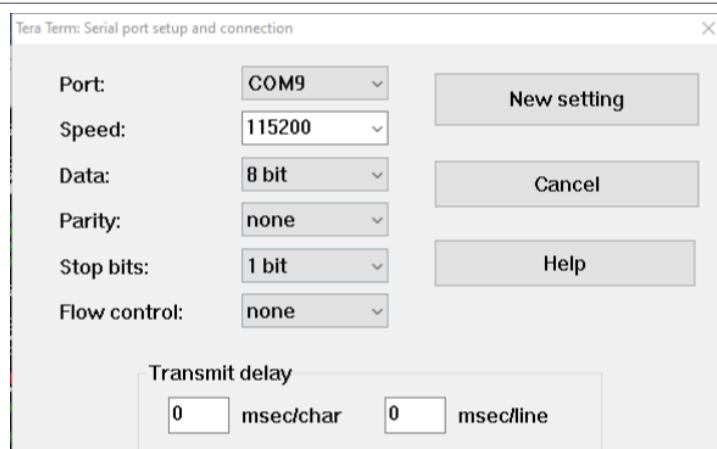

Figure 8. Serial port settings
Step2 – Open a serial port console with the baud rate of 115200 and other serial port settings on the PC (Figure 8).